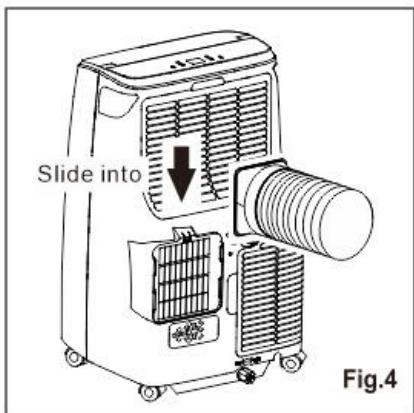

Fig.4
3. Install the hose inlet into the unit (Fig.4).